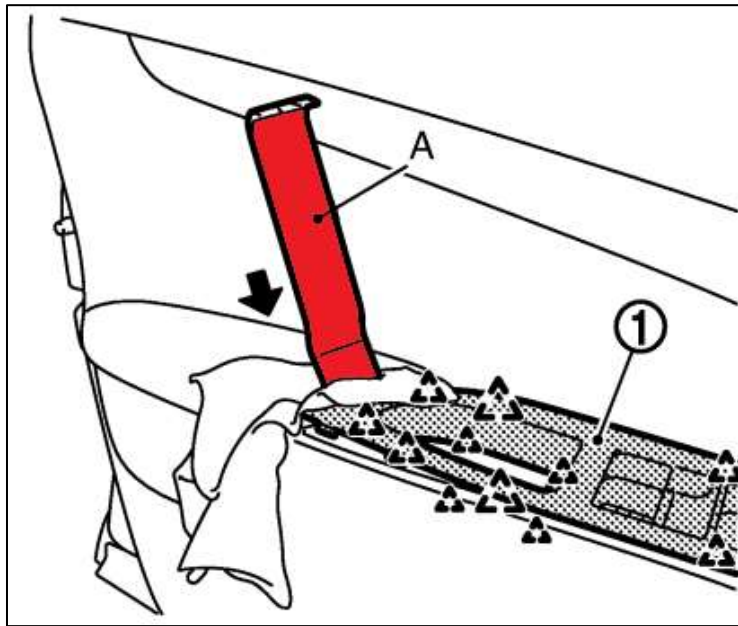

Figure 56
4. Remove the Door Control Panel with a Trim Removal Tool. *Figure 56.*